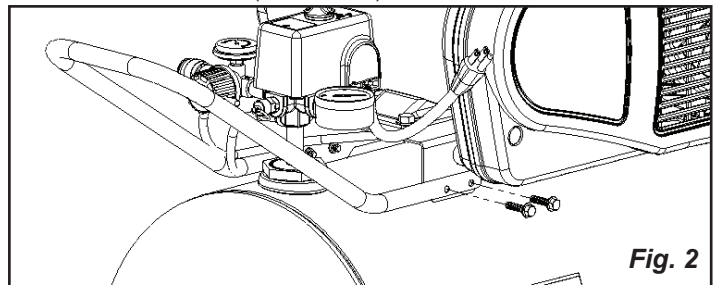

Fig. 2
3. Attach handle to compressor as shown in *Fig. 2*.